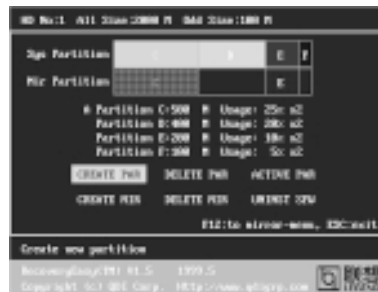

figure-1 Partition Interface
1. Partition Interface (see figure-1)